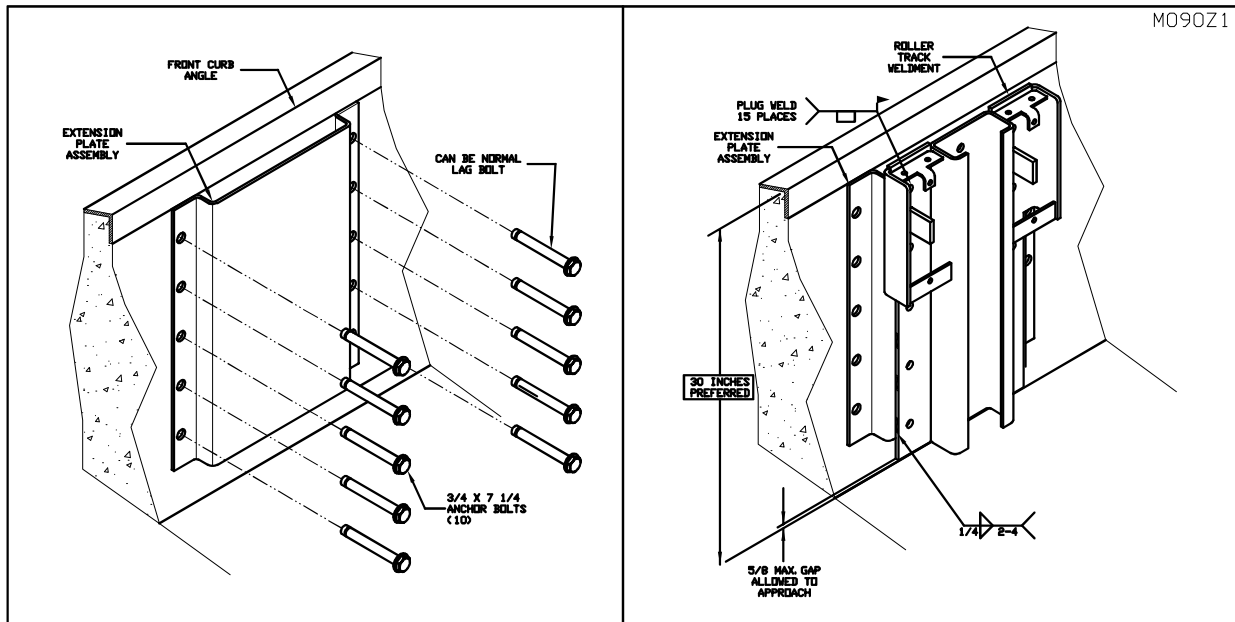

Figure 6: Extension Plate Installation
The roller track weldment can be installed onto the dock face by either welding it to a cast-in plate or by bolting the roller track assembly to the concrete face using 15 concrete anchor bolts. In addition, roller track assembly can be welded to an extension plate. (See “Figure 6: Extension Plate Installation” on page 8)
6. ☐ Install all anchors and torque to 120 ft-lbs. (See "Figure 6: Extension Plate Installation" on page 8)
9. ☐ Plug weld all holes that are in contact with the extension plate. In addition, weld using a minimum 1/4 inch leg on the welds and 2 inch long welds on 4 inch centers. (See "Figure 6: Extension Plate Installation" on page 8)